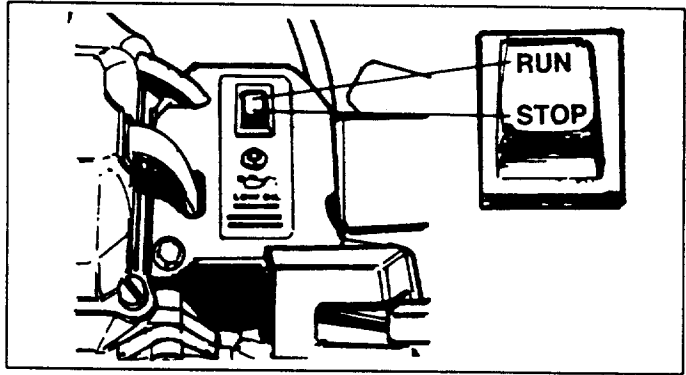

FIG. 5
- Locate the Run/Stop switch (Fig. 5) next to the engine cylinder head and set it to RUN.